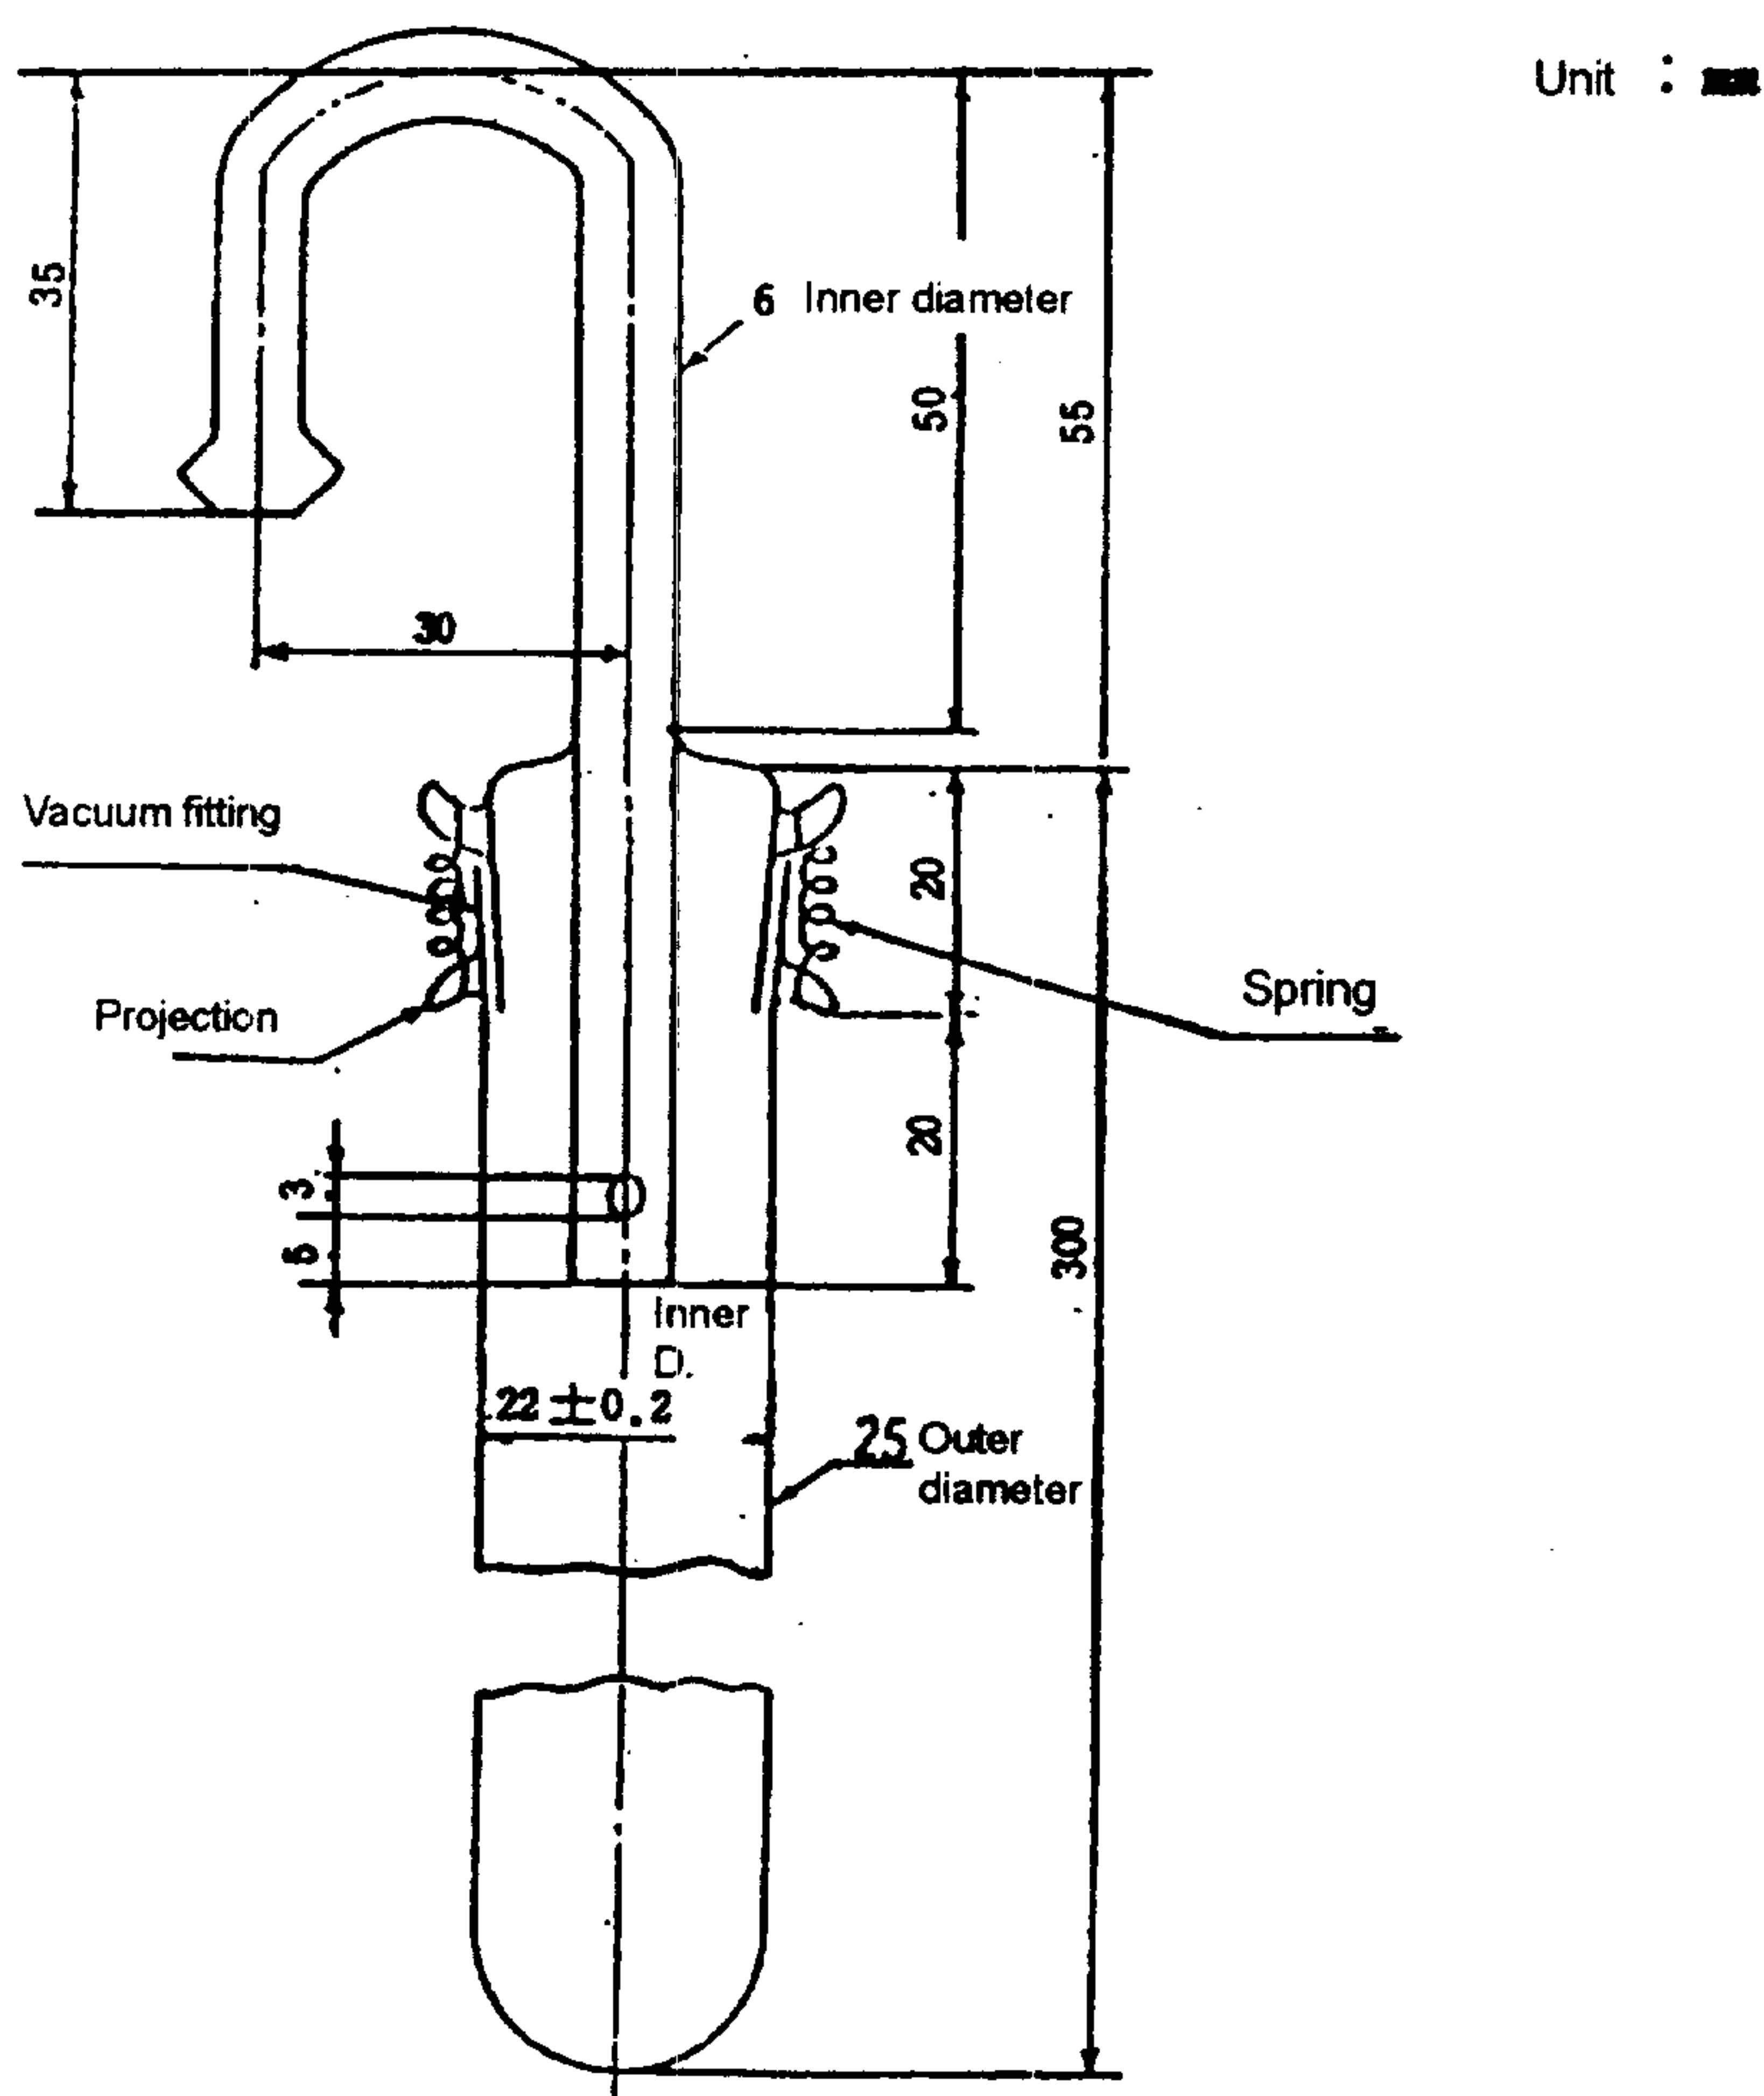

Figure 1 Sample vessel (Hard glass)
- (1) Constant temperature oil bath : Each part should be kept at 120 ± 0.5 °C. mix sample without hard vibration.
- (2) Oxygen gas : This shall be more than 98 % genuine from bombe and water.
- (3) Oxygen reservoir : Use this without oxygen from bombe and water.
- (4) Oxygen drier : This shall be for dry oxygen and use blue gel and change discolored one (Diameter 20 mm and height 150 ~ 200 mm U pipe).
- (5) Sample reservoir : This shall be figure 1 and hard.
- (6) Gas pressure regulator and mercury manometer : This shall be 30 mm diameter and 200 mm depth and with 3 mm inner radius glass pipe and control depth according to the clause 7.